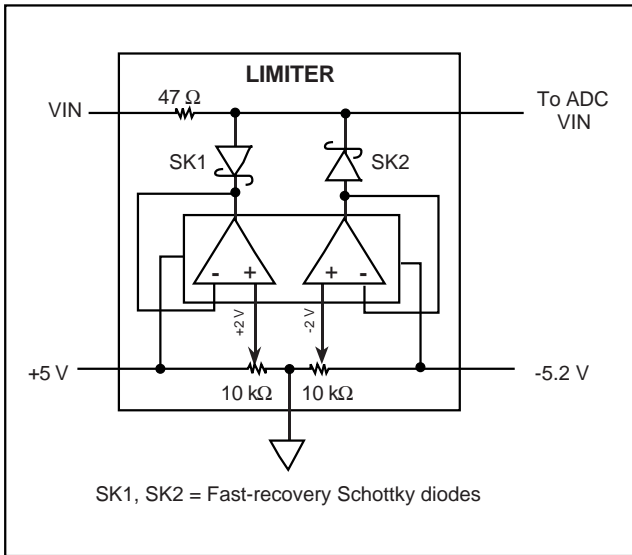

Figure 12. An Example of an Input Limiter
- 7) The limiter is required if the analog input's maximum peak-to-peak voltage exceeds ±2.5V. Incorporate this limiter within the analog input driver, or use the circuit shown in Figure 12. Another option is to add a 100Ω resistor in series to current limit the input. This last option adds another LSB error to both plus and minus full scale, compared to only 1/2LSB when using the circuit shown in Figure 12.